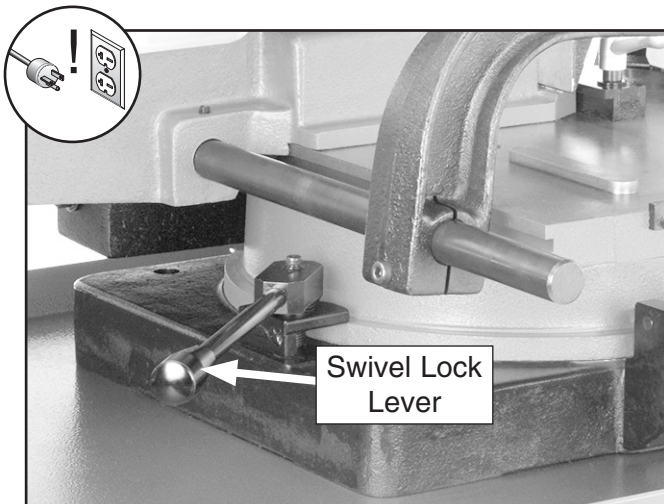

Figure 47. Location of swivel lock lever.
- Loosen swivel lock lever (see **Figure 47**).